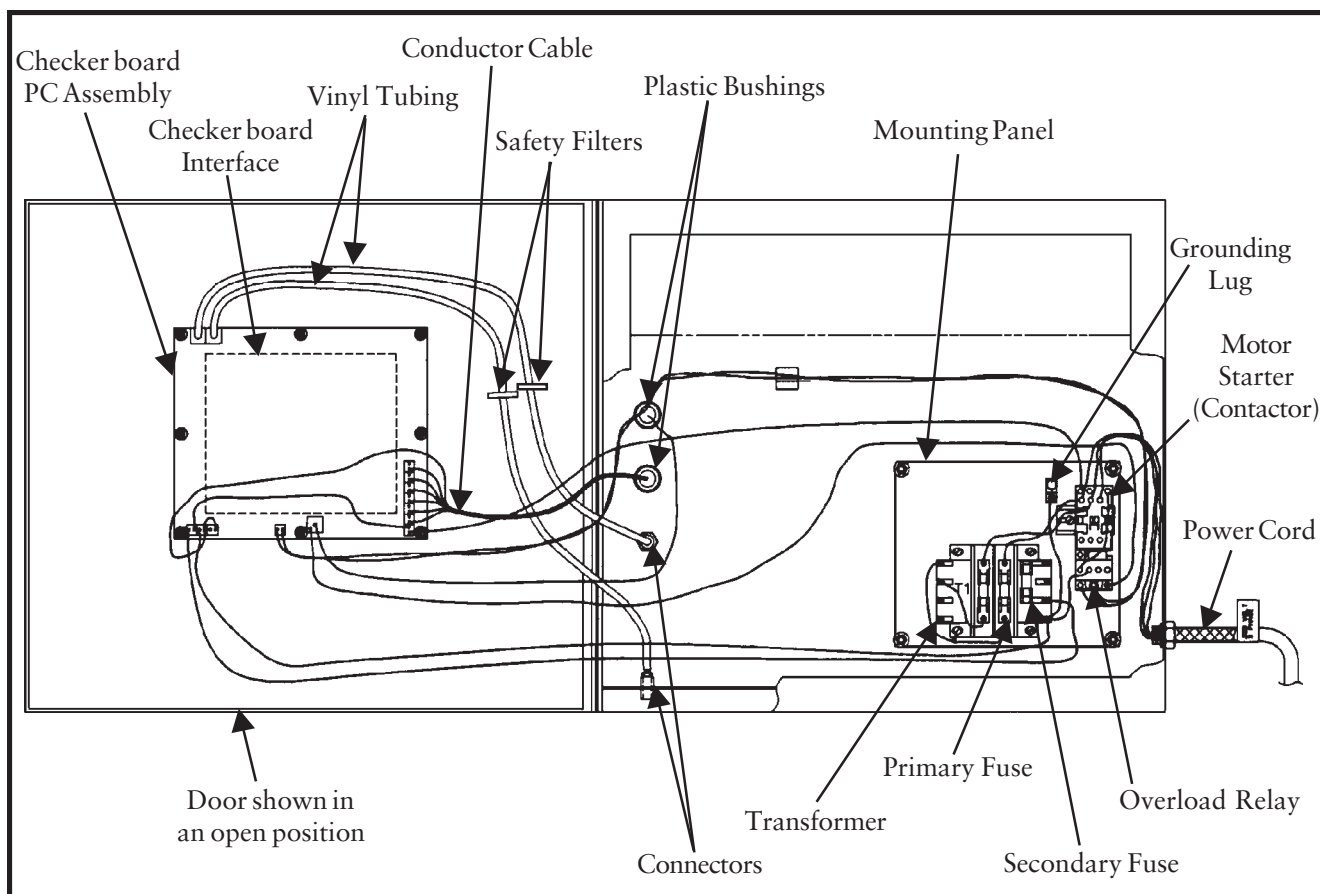

Figure 41
6.6 Electrical Service (See Figure 41 Typical Electrical Component Assembly)
A model SDF dust collector prewired electrical compartment equipped with the Checker board diagnostic and control panel is shown in Figure 41 Typical Electrical Component Assembly. For a detailed description of these parts see the Checker Board Replacement Parts List RPL-46813-00.